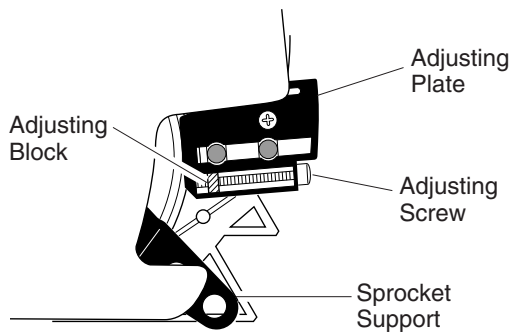

Figure 4 - Part Locations for Assembling Guide Bar
3. Turn adjusting screw counterclockwise (see Figure 4, page 7). Continue to turn adjusting screw until adjusting block is to rear of adjusting plate.